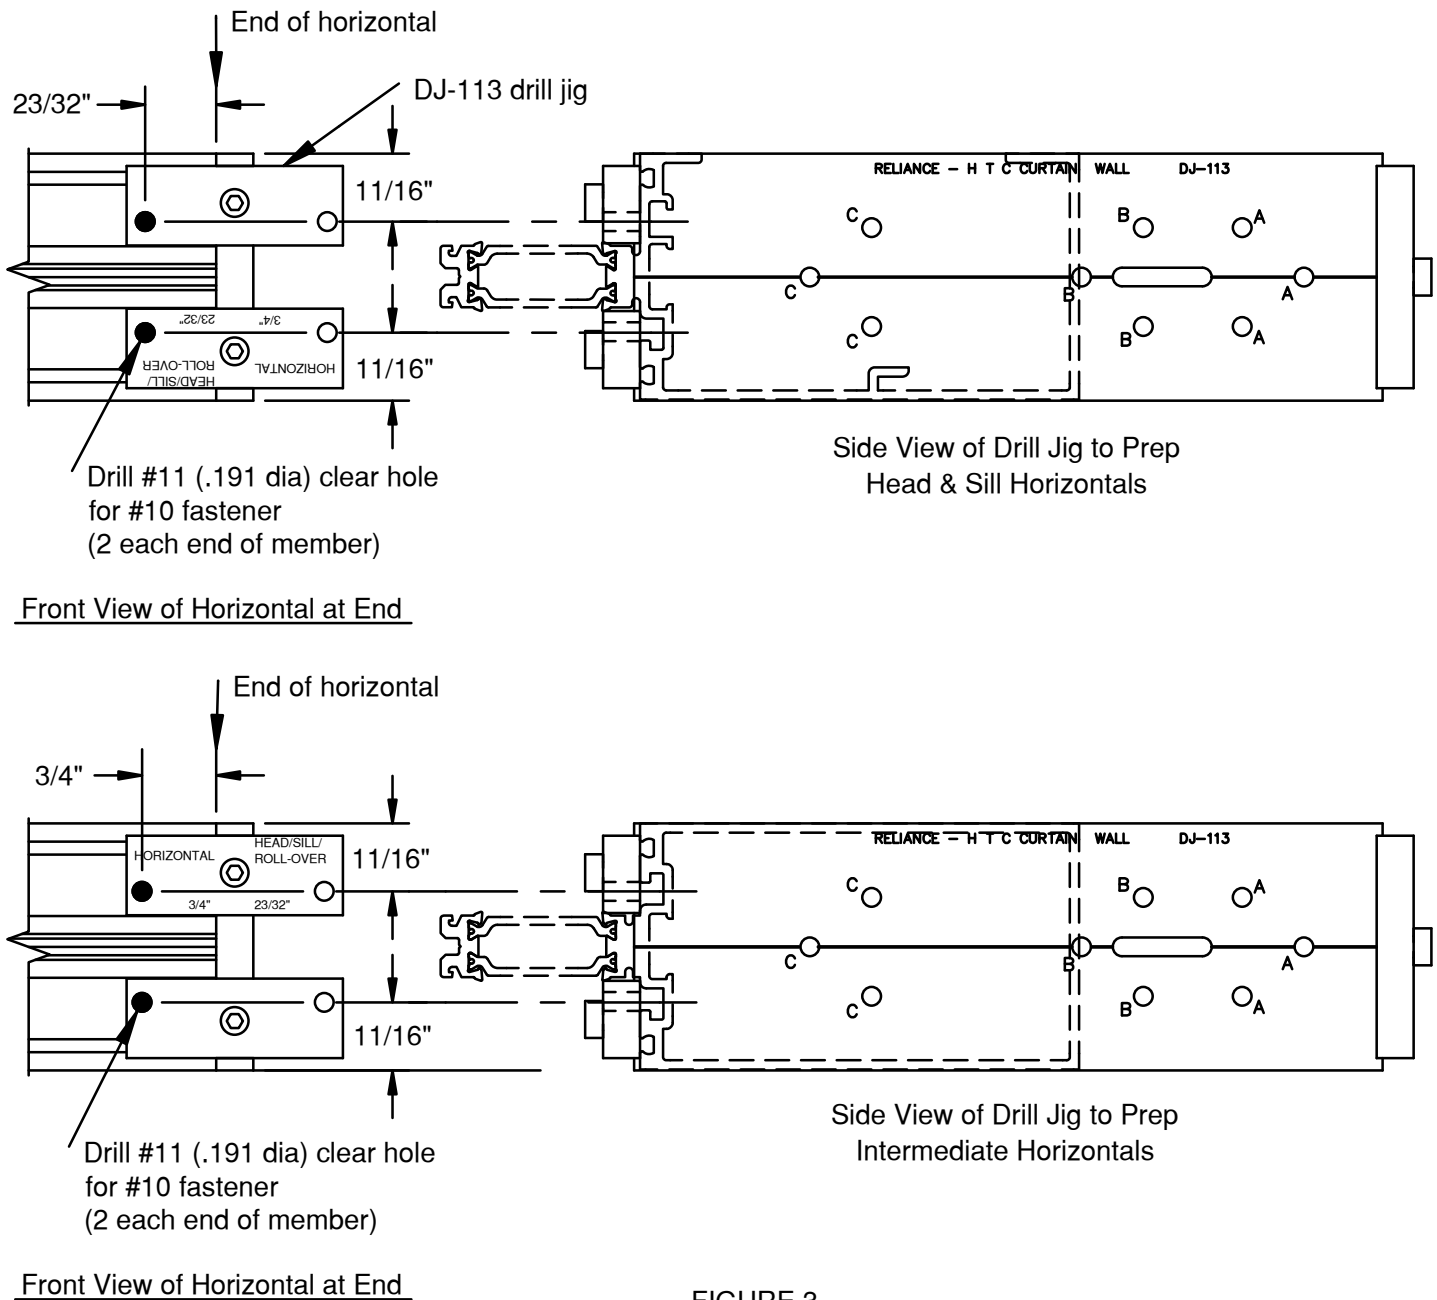

FIGURE 3
- 1.5 Fabricate ends of horizontal members for shear block screws, using DJ-113 drill jig. SEE FIGURE 3. Note: When fabricating horizontals, use the side of the drill jig stamped "Horizontal". When fabricating head and sill horizontals, use the side stamped "Head/Sill/Rollover".